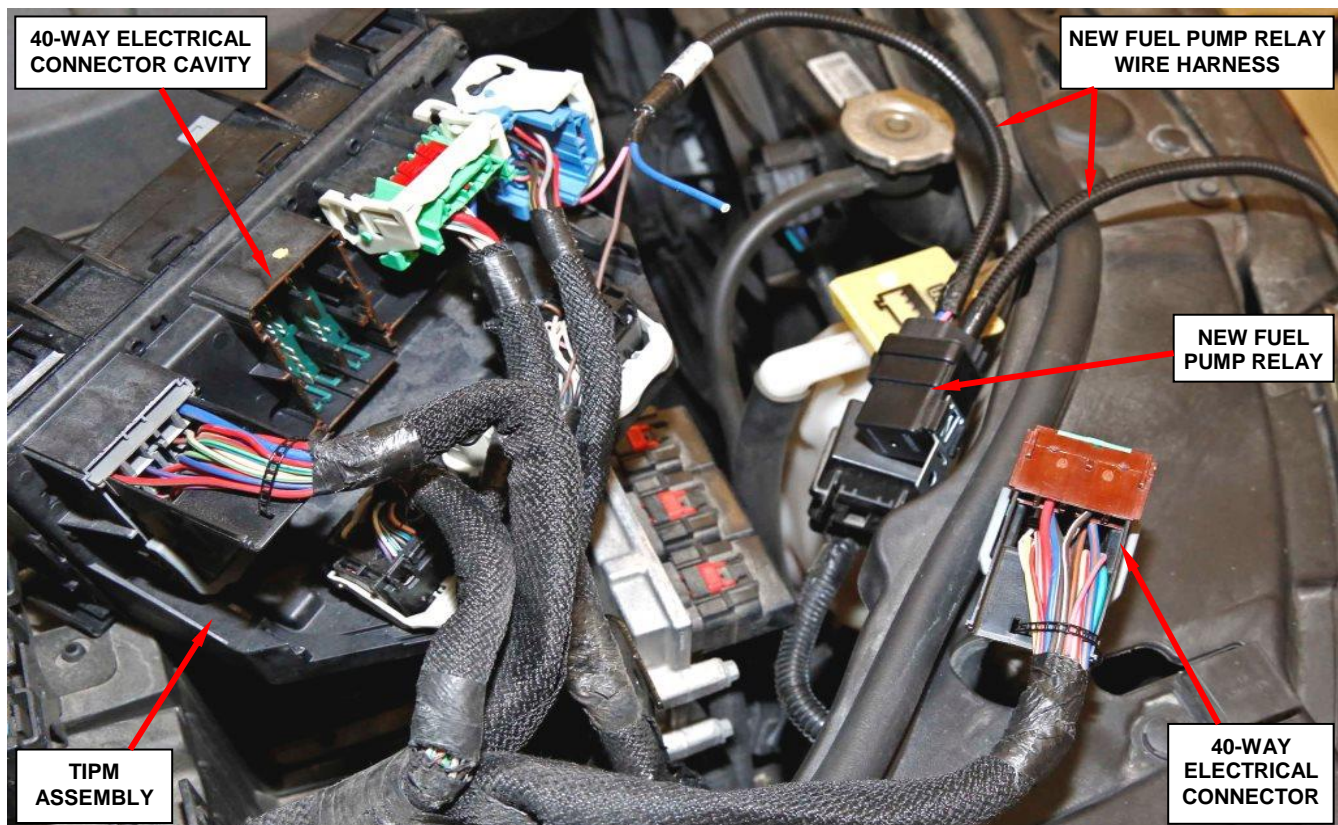

**Figure 8 – Insulate Brown Abandoned Wire**
10. Install shrink tube to the connector side brown wire to insulate the wire end. This wire will no longer be used (Figure 8).